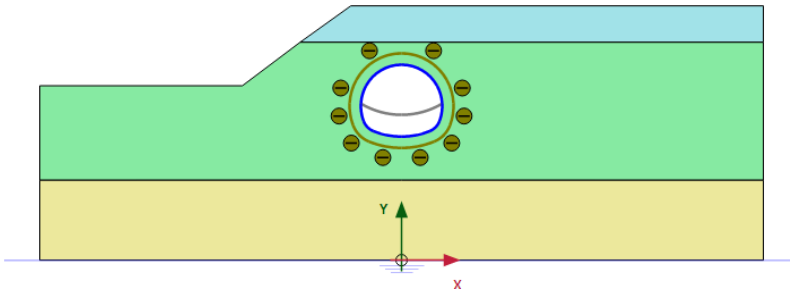

Figure 7.9 Configuration of Phase 4
- Activate the remaining lining and interfaces. All the plates and interfaces around the full tunnel are active (Figure 7.9).